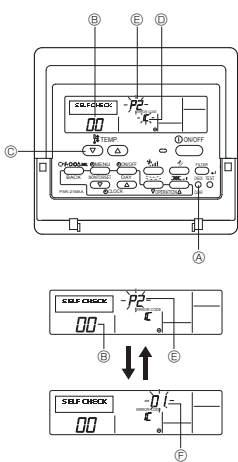

Fig. 7-3
7.3.1. Wired remote controller (Fig. 7-3)
- ① Turn on the power.
- ② Press the [CHECK] button twice.
- ③ Set refrigerant address with [TEMP] button if system control is used.
- ④ Press the [ON/OFF] button to stop the self-check.